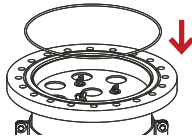

Figure 26.
4. Ensure the housing O-ring is seated properly on the cartridge O-ring grooves, Figure 26.